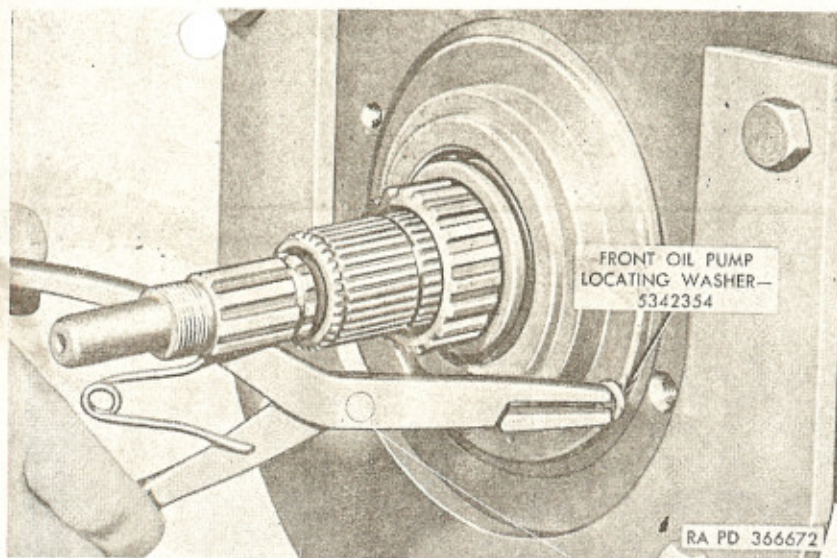

Figure 43. Removing or installing front oil pump locating washer.
d. Remove two bolts attaching front oil pump cover to transmission case. With snap ring pliers, remove front oil pump locating washer (fig. 43) from counterbore.